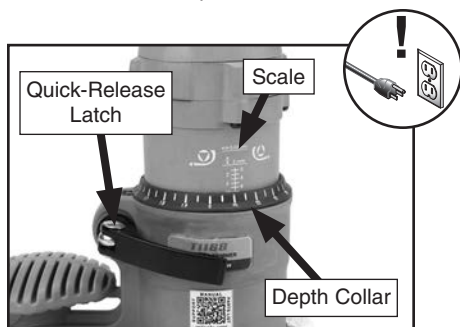

Figure 11. Controls for bit-depth adjustment.
2. Loosen quick-release latch shown in **Figure 11**, and turn base plate clockwise or counterclockwise to approximate desired depth of cut.